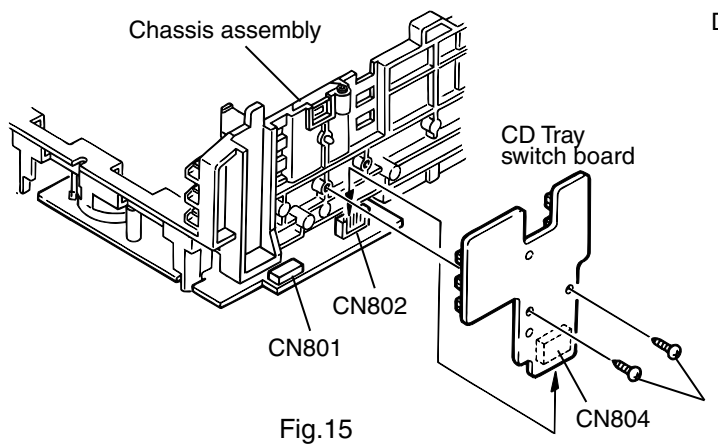

Fig.15
3. Remove the two screws I retaining the tray select switch board(See Fig.15).
■ Removing the can unit (See Fig.15 ~ 18)
2. While turning the cam gear L, align the pawl n position of the drive unit to the notch position(Fig.15) on the cam gear L.